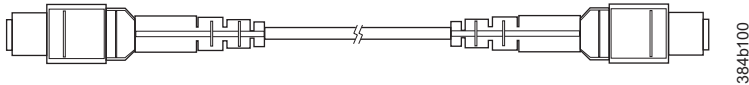

Figure 51. Female-to-female patch cable for QFSP connections
- Use female-to-female patch cable (Figure 51) with the following specifications: